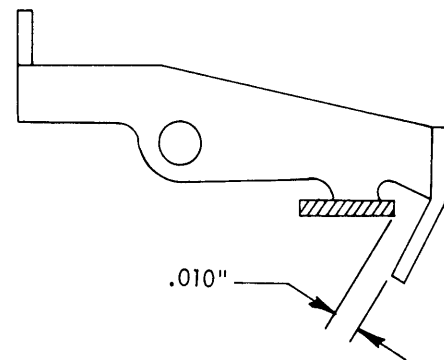

FIGURE 188. Stencil Locking
8. Stencil Lockout (Fig. 188) - With the lift lever in stencil position and the cam follower on the high point of the ribbon feed cam, form the ribbon feed latch for .010" clearance with the lug on the cam follower.